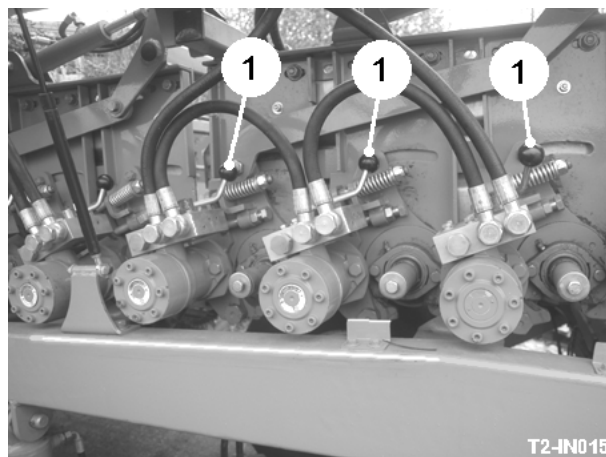

Fig 16
The 1st and 2nd Omega separators are both 3 roller units. To encourage a steady feed over the separators, they are individually mounted allowing them to be hydraulically angled between 0° and 8°. The scroll speed of each unit can be set on the service terminal screen. The speed of each set of clod rollers is set on the service terminal. In addition, each clod roller motor is fitted with a manual reversing valve (item 1, fig 16) allowing the operator to fine tune the separation. The clod rollers can be reversed momentarily from the touch-screen terminal to facilitate stones and trash seen by the operator to be ejected before a blockage occurs. To operate, press the icon marked '1st or 2nd Omega clod roller forward/reverse', press again to revert to normal operation (See Omega 1st or 2nd Separator Screen in the control section of this manual).